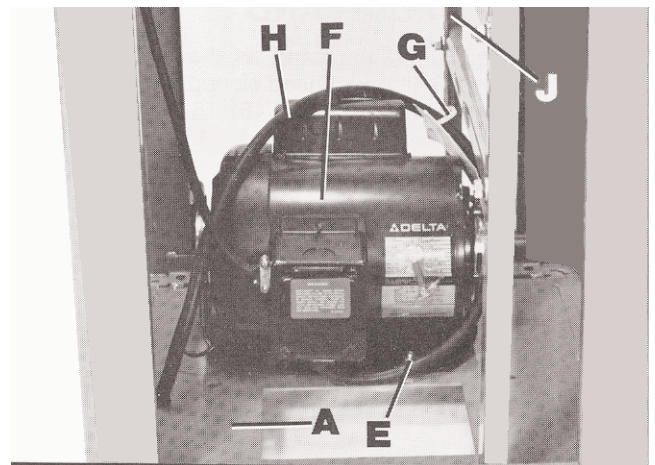

Fig. 2
Remove two mounting screws, one of which is shown at (E) Fig. 2, that are holding motor (F) to the top of stand (A).